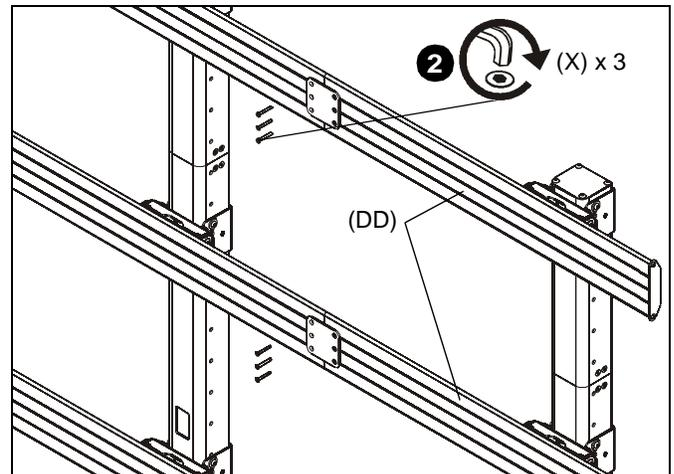

Figure 11
- Install add-on rails (DD) to right column following instructions in Rails Installation section.
- Use three #10-24 x 1 1/2" flat head cap screws (X) to attach each add-on rail (DD) to display rail (L). (See Figure 11)